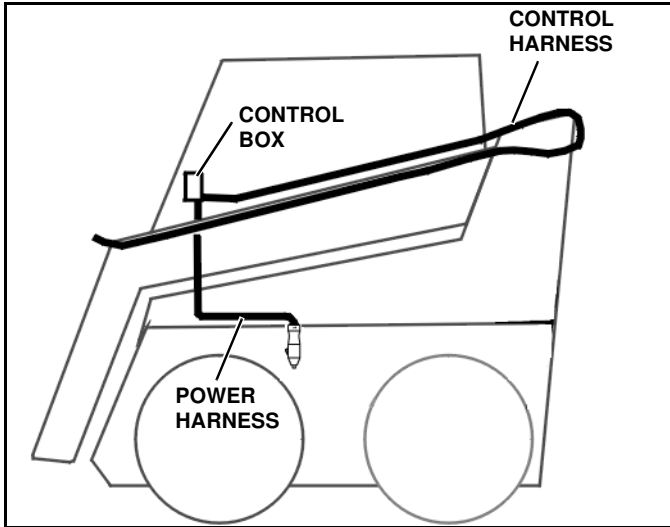

Figure 2-24
2. Connect the power adapter to the in-cab power receptacle. The power cable may need to be wrapped around the back of the seat. (See Figure 2-24)